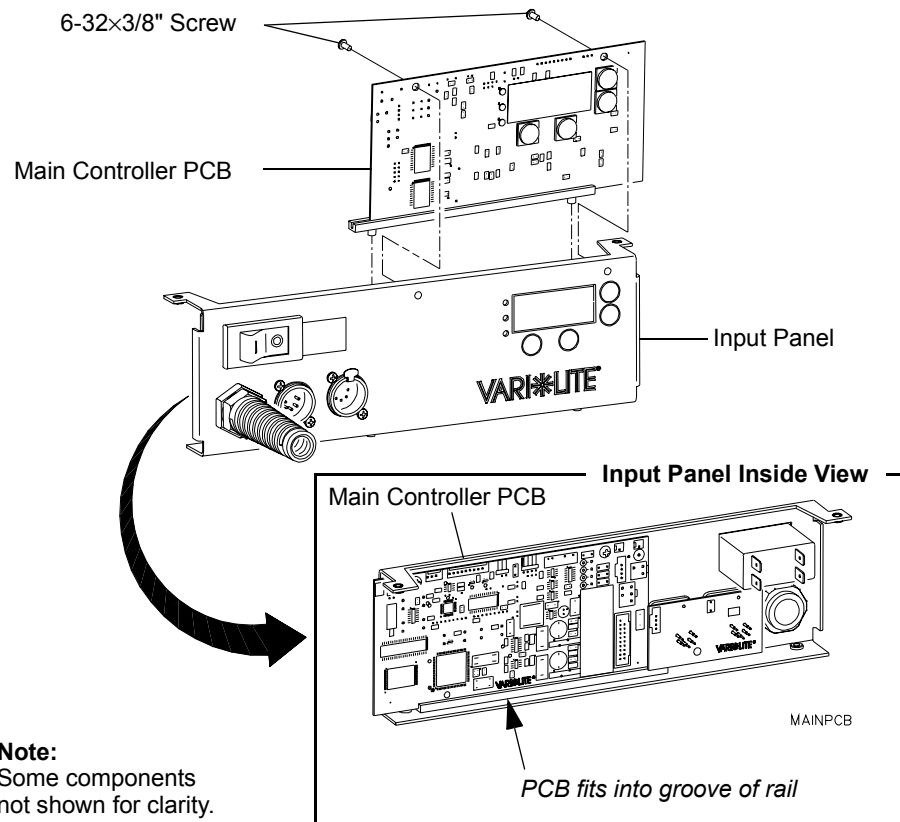

Figure 2-21: Main Controller PCB Removal
Step 4. At top of PCB, remove two 6-32×3/8" screws and remove PCB. **Figure 2-21.**